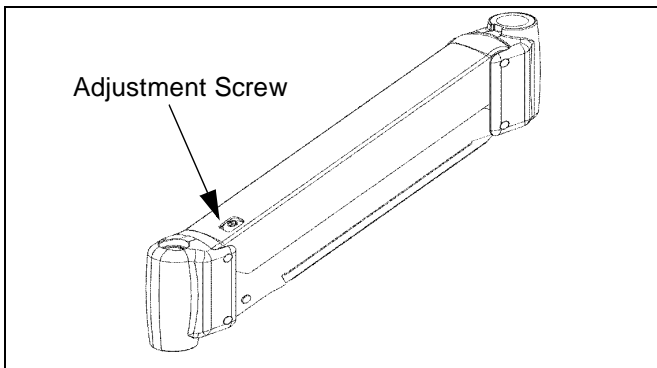

Figure 25: Height Adjustable Arm Adjustment
- Using 5/32" hex key, slightly loosen or tighten the adjustment screw as necessary (See Figure 25).